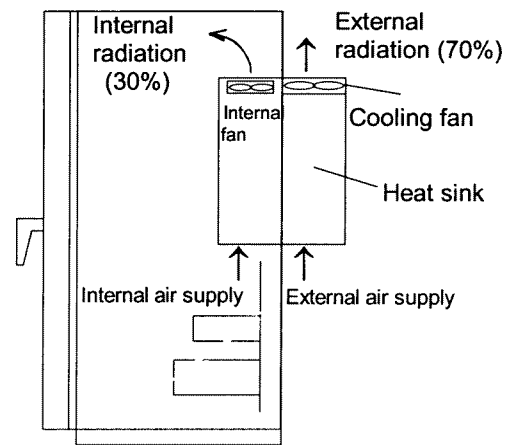

Fig.2-2-2
- When shipped from the factory, inverters are internal cooling type inside panel. An inverter of 30HP or less can be converted to an external cooling type simply by adding an optional mounting adapter. An inverter of 40HP or more can be converted simply by moving mounting adapter. In an external cooling system, a heat sink radiating about 70% of total inverter heat (total loss) can be placed outside the device or control panel. Ensure that heat sink surfaces are kept free of foreign matter (lint, Fig. 2-2-2 External cooling system moist dust particles etc.).